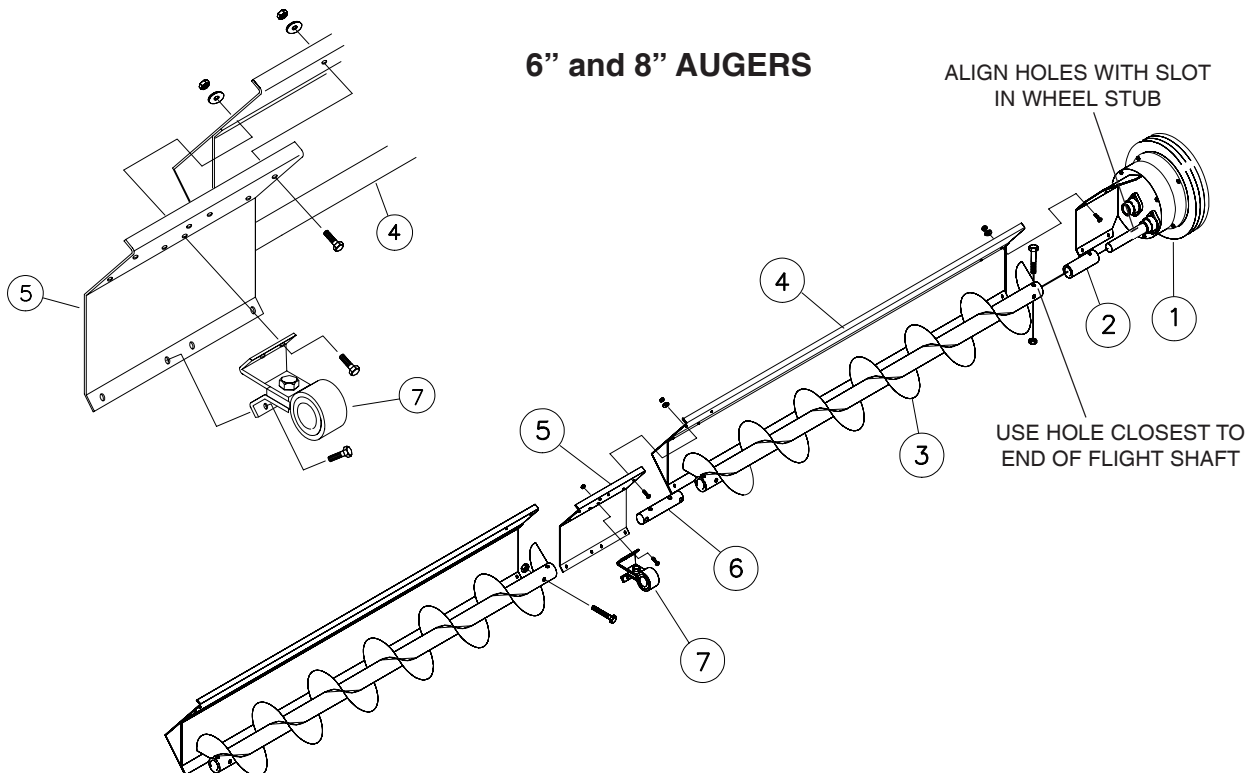

FIG. 19
10. Assemble the flight and shield to the sweep wheel (See Fig. 19). **(Note: if there are three (3) sections of flights and shields, the shield that measures 86 1/4" long MUST be placed in the middle).**
- A. Slide bushing (Ref. No. 2 in Fig. 19) onto the sweep wheel stub so that the hole in the bushing is closest to the wheel (align the bushing with the slot in the wheel stub).
- C. Fasten the shield (Ref. No. 4) to the sweep wheel using four (4) 5/16" x 3/4" bolts, flat washers and nylon locknuts.
- A. Install the flight stub (Ref. No. 6) into the end of the flight previously attached to the sweep wheel. Secure using two (2) 7/16" x 2 1/2" bolts and nylon locknuts for 6" Power Sweeps, or two (2) 1/2" x 3" bolts and nylon locknuts for 8" Power Sweeps.
- B. Slide the shield bearing hanger (Ref. No. 7) onto the flight stub and bolt the next section of flight to the stub using two (2) 7/16" x 2 1/2" bolts and nylon locknuts for 6" Power Sweeps, or two (2) 1/2" x 3" bolts and nylon locknuts for 8" Power Sweeps.
- C. Use four (4) 5/16 x 3/4" bolts, flat washers and nylon locknuts in the top and outside holes of the shield splice (Ref. No. 5) to attach it to the end of the shield previously bolted to the sweep wheel (the splice will mount to the auger side of the shield). Place the next length of shield on top of the splice and align the mounting holes, secure using four (4) 5/16" x 3/4" bolts, flat washers and nylon locknuts.
- D. Install the the shield bearing hanger bracket (Ref. No. 7) to the auger side of the shields and secure using four (4) 5/16 x 1" bolts, flatwashers and nylon locknuts.